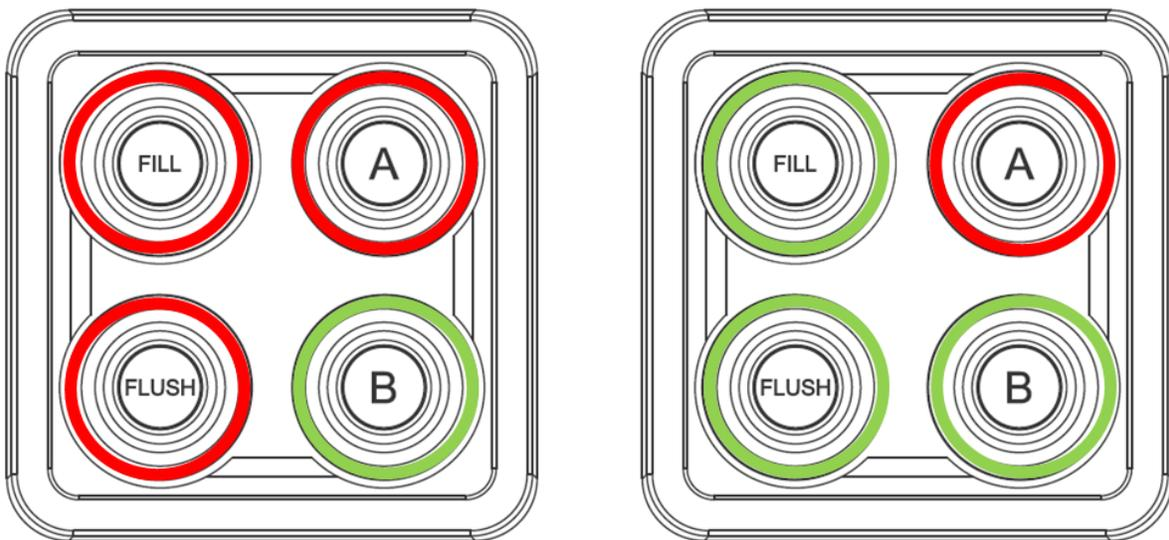

Figure 2-4: Dual Tank Configuration (Tank A selected left, Tank B selected right)
- The “B” button configuration is ON STEADY when foam TANK “B” is selected (Figure 2-4).